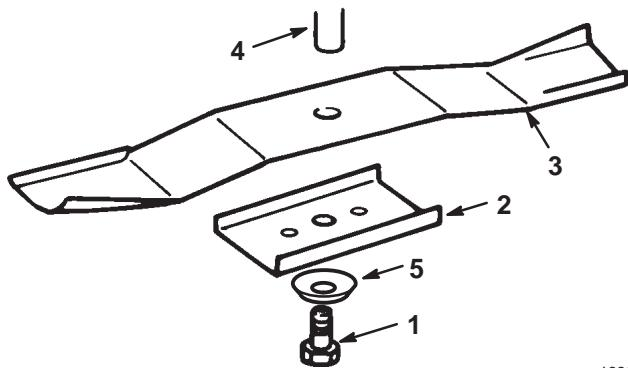

Figure 33
3. Remove the bolt (5/8 in. wrench), curved washer, retainer, and blade (Fig. 33). A block of wood may be wedged between the blade and the mower to lock the blade when you are removing the bolt.
1. Install the blade, blade retainer, curved washer (cupped side toward blade), and the blade bolt (Fig. 33).